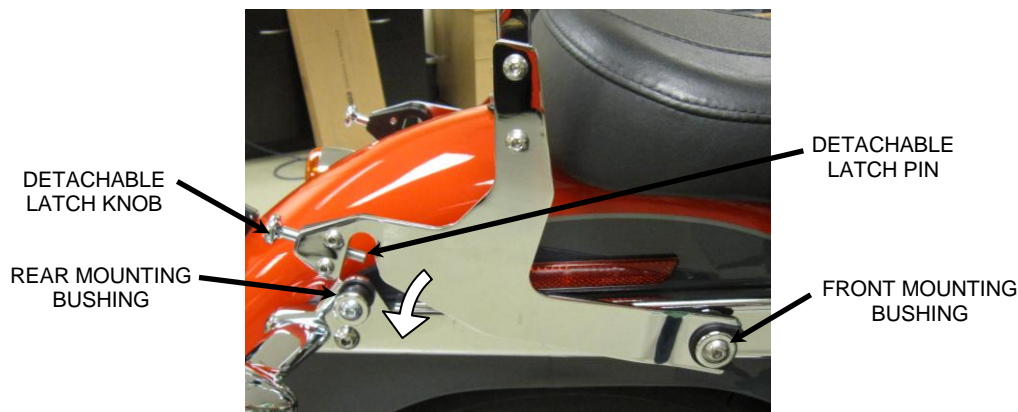

FIGURE 4
7. Install the sissy bar onto the bike by first inserting the front portions of the side brackets on to the front mounting bushings on the frame rails. Make sure the sissy bar is seated all the way onto the mounting bushings. See **FIGURE 4**.
8. Then slowly rotate the sissy bar downward so the rear portions of the brackets slip over the rear mounting bushings. See **FIGURE 4**.